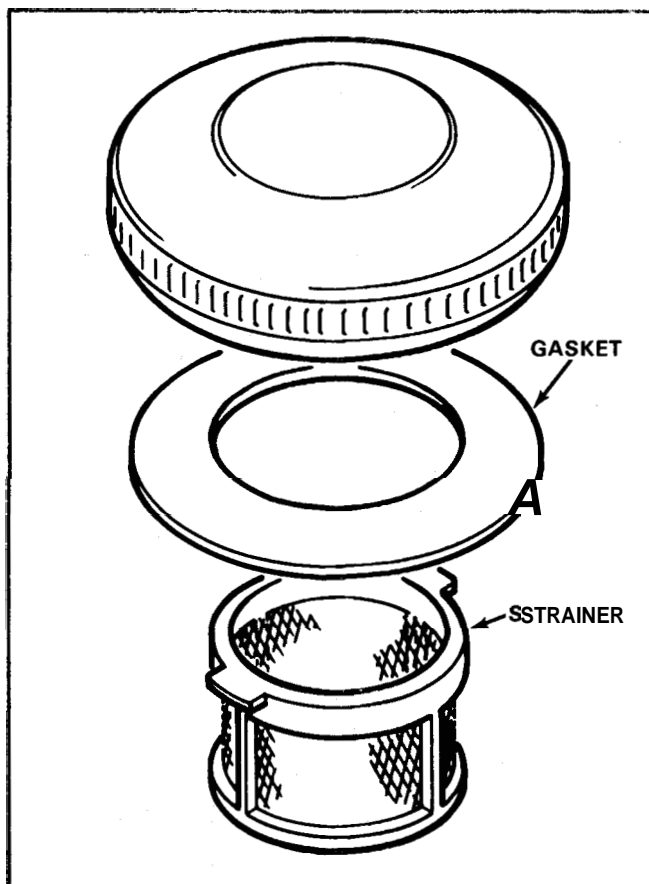

Figure 24
2. Examine the gasket. The gasket should indicate an even seal for a full 360 degrees. The gasket part number is 53-1420 for T1200 -T3000 generators. See Figure 24.